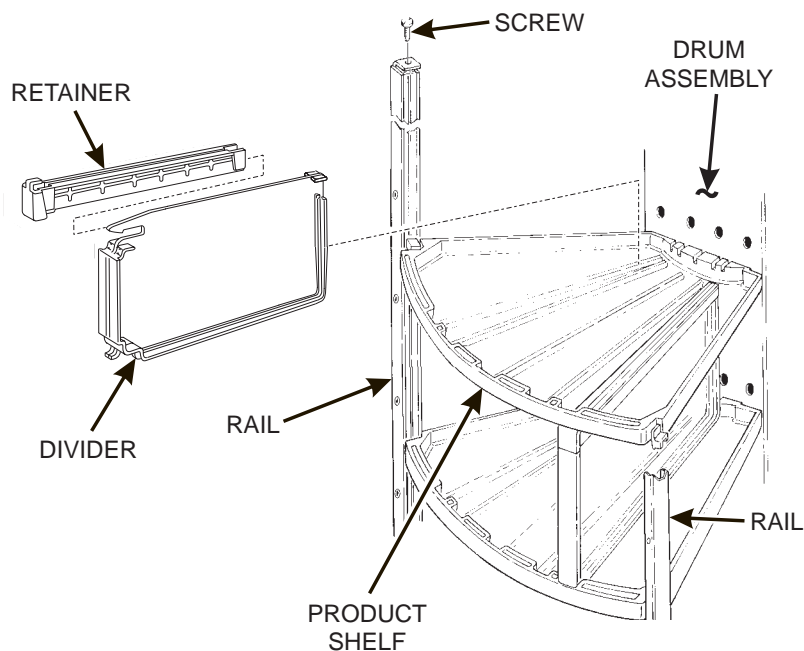

Figure 4-2. Product Dividers and Shelf Assembly Removal and Replacement
Adjust the dividers as follows (see figure 4-2):
2. See figure 4-2. Remove dividers, if applicable.